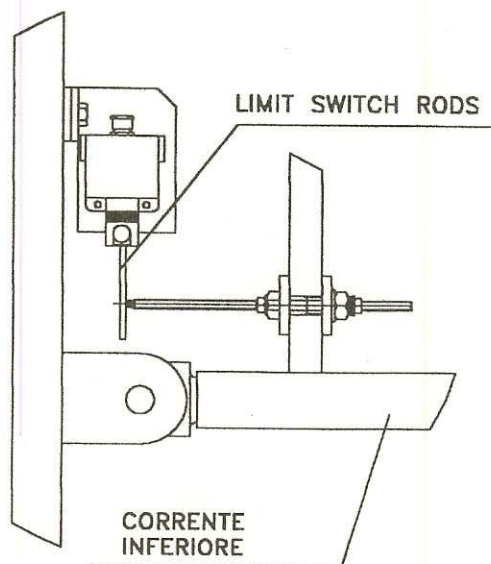
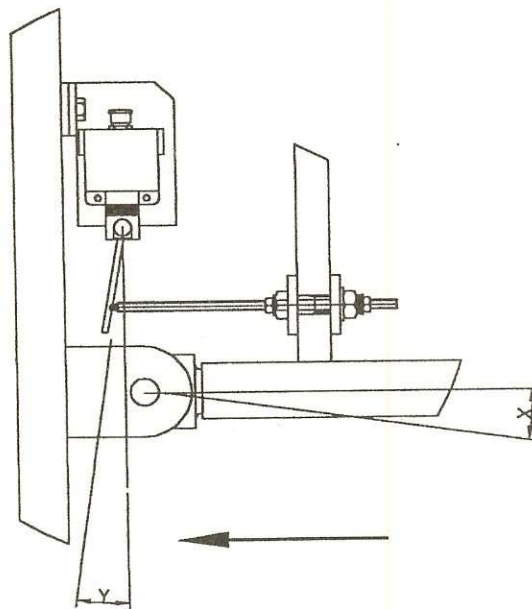

FIG. 5.4.12 Detail of levelling system
FIG. 5.4.14 Detail of operation
The limit switches are positioned on each of the two lifting units inside the twin-mast platform at the end of the lower boom (toe-board) of the work deck (figure 5.4.12) and each one is fitted with a rod so that any movement of the deck may be perceived through the inclination (figure 5.4.12).
because the ends of the lower boom remain at a certain distance from the limit switch rods (Figure 5.4.12). When one lifting unit is faster than the other, by way of example let's take the left-hand unit, the work deck starts to slope at an ever increasing angle (X). The left-hand end of the lower boom starts to press on the limit switch rods, pushing them into an angle (Y) which gradually increases (Figure 5.4.14). The level limit switch rod precedes the out-of-level limit switch (Figure 5.4.12), so the level limit switch is the first to be activated. When this happens, the power supply to the highest lifting unit is cut off. The lowest lifting unit continues to move; in this way the angle of inclination (X) gradually decreases and the work deck returns to a horizontal position.
As the angle (X) decreases, the end of the lower boom which had activated the limit switch, starts to return towards its original position, thereby releasing the limit switch rod. When the angle (Y) goes below a certain pre-established value, the lifting unit which had been stopped is re-powered and the platform starts to rise normally again. The emergency level limit switch is not normally activated because it is always anticipated by the level limit switch. It only activates in the event of malfunctioning of the level limit switch. In this case the main power supply is cut off and the platform stops. Care must be taken over regulating the activation of the level limit switch so that the angle (X) of inclination of the work deck is 1° or less. The emergency level limit switch should instead be adjusted so that the lifting unit stops after no more than 100 mm from the position of activation of the level limit switch. The angle (Y) is in proportion to the angle (X), so, once the maximum allowable inclination of the work deck has been established, angle (Y) is established, correcting the position of the limit switches on the supporting plate (Figure 5.4.12) by means of the clamping screws on the limit switches.